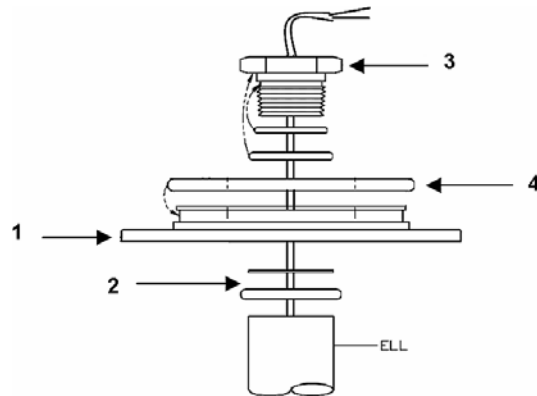

Figure 12
Step 7) Set the new base plate (1) with o-rings (2) onto the ell and secure it with the new hex bushing (3). Install the new canopy o-ring (4). (Figure 12)